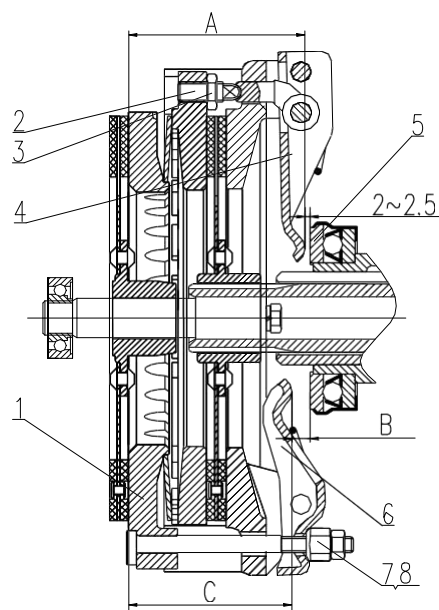

Figure 4-3 Double-action clutch
(1) The adjustment method of the clutch pedal free stroke is as follows:
First loosen the locknut (3) on the adjusting nut (2) (as seen in Figure 4-3), then turn the adjusting nut (2) for the adjustment, making the distance between the working face of the three main clutch release lever (4) and the working face of the clutch pressure plate (1) $A=86.5+0.2\text{mm}$ for 25-28hp models; $A=101.5+0.2\text{mm}$ for 30-32hp models; and finally lock the locknut (3). Loosen the nut (7 and 8), turn the adjusting nut (8) to make the distance between the working face of the auxiliary clutch release lever (6) and the working face of the clutch pressure plate (1) $C=78.5+0.2\text{mm}$ for 25-28hp models; $C=93+0.2\text{mm}$ for 30-32hp models; and screw down the nut (8). Adjust the clutch push rod control fork 4 (as seen in Figure 4-2) to guarantee the free stroke of the clutch pedal is (25-30)mm and lock the screw nut (5) after the adjustment (see Figure 4-2).
(2) The adjustment method of the clutch pedal working storke is as follows:
- (6). When dismantling the clutch, replace the release bearing (5) (Figure 4-3). Replace through-out bearing.